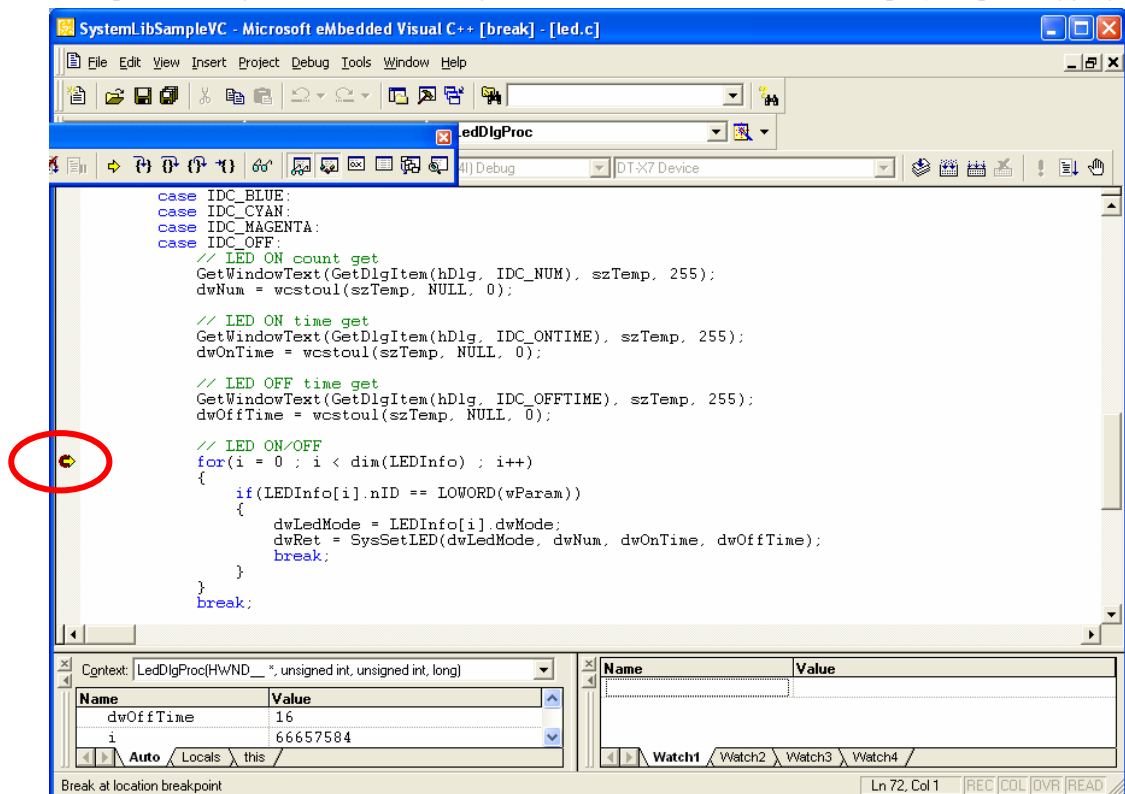

Figure 7.22
3. Similar to ordinary debugging operations with an actual IT-3100, the **Device Emulator** allows break point setting (circled in red in Figure 7.22) in the source code and step-by-step debugging.